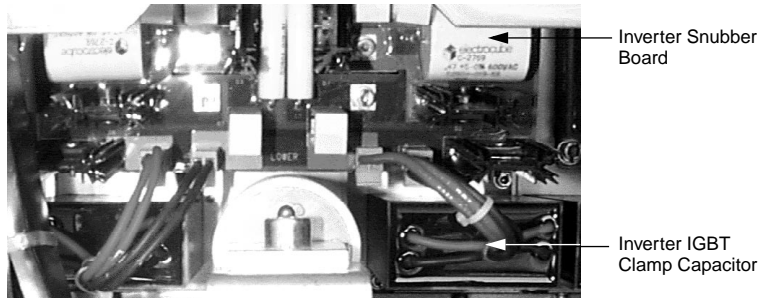

Figure 4.3.29: Inverter IGBT Clamp Capacitor
2. If one of the lower inverter IGBT clamp capacitors is being replaced (see Figure 4.3.29 on page 4.3.42), then remove the related lower inverter snubber board as described in “Replacing the Inverter Snubber Board” on page 4.3.30.